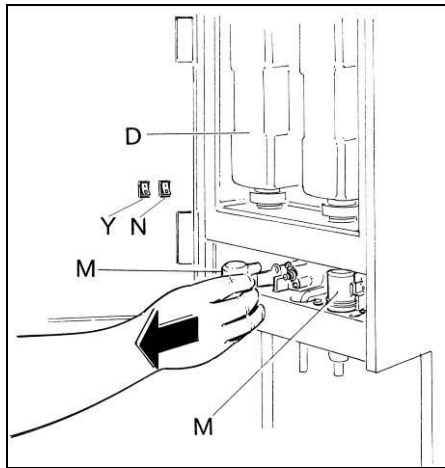

Fig. 5
- **R**emove the mixing chamber M (Fig. 5).
- **R**einstall the product container in its seat, turn the switch N in ON position (fig.5).